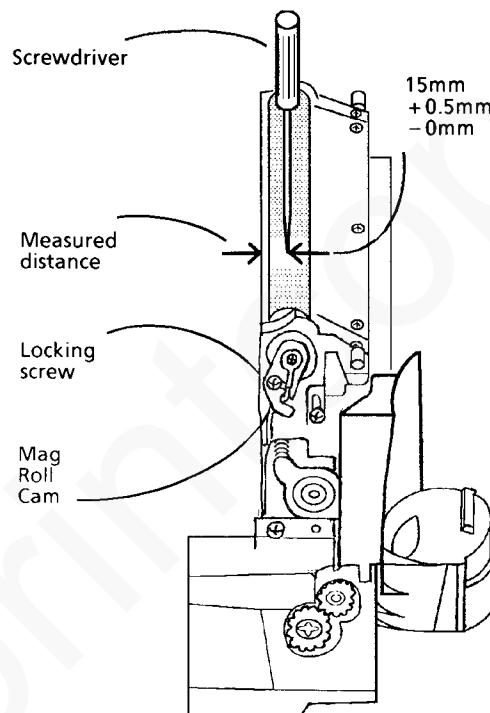

Figure 2. Checking and Adjusting the Mag Roll Cam
4. Check the Mag Roll Cam (Figure 2).
1. Adjust the Mag Roll Cam (Figure 2).